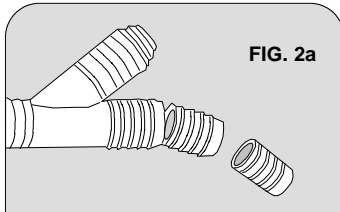

FIG. 2a
3. Universal barbs on the ET116-002 will accommodate the various dishwasher hoses encountered. Determine which size is required by sliding open end of the hose over stepped barbs until one fits snugly. If the hose fits snugly over the middle or largest barb, you must cut away the smaller barb(s) with a hacksaw. Use the grooved "cut lines" provided, then smooth away any burrs. (See Fig. 2a)